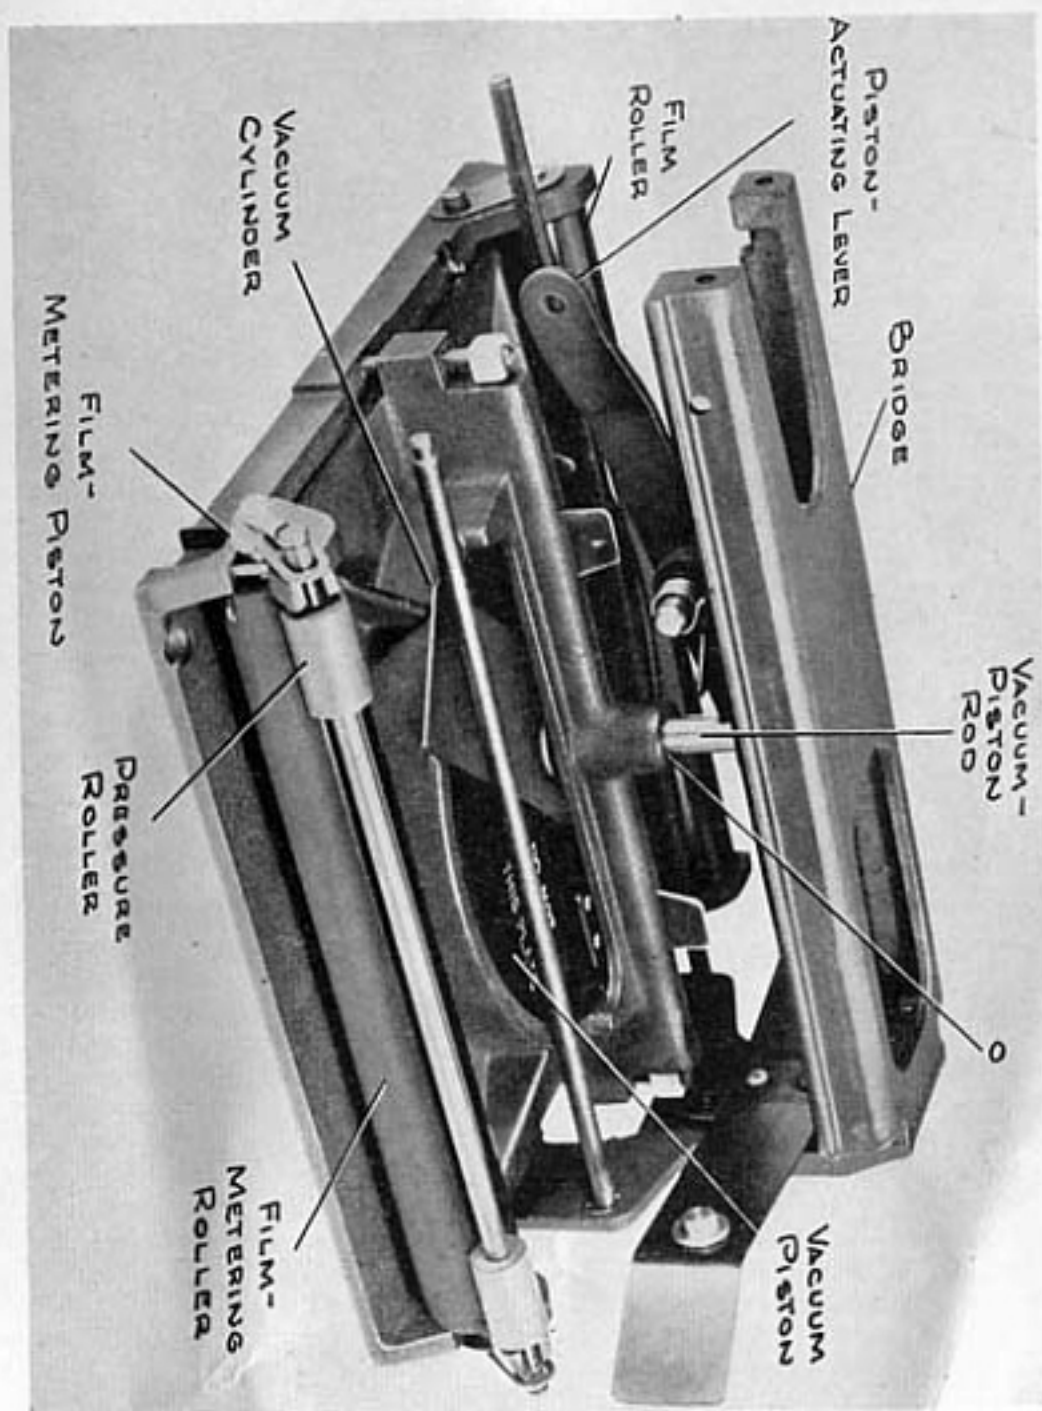

Figure 14—Vacuum Back Assembly
(5) *Vacuum Back Assembly (K20C-H22).* (See figure 14.)